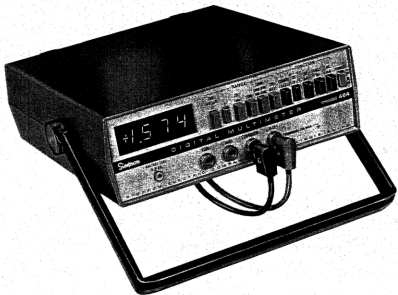

Figure 1-1. Model 464 Digital Multimeter
1.1.3 The Model 464 (see Figure 1-1) measures DC and AC voltage, DC and AC current and resistance as specified in Table 1-1. The charge-balance integration technique is used for the analog-to-digital (A/D) conversion circuitry and is contained in two Large-Scale-Integration (LSI) modules, which provide high reliability and compact design.